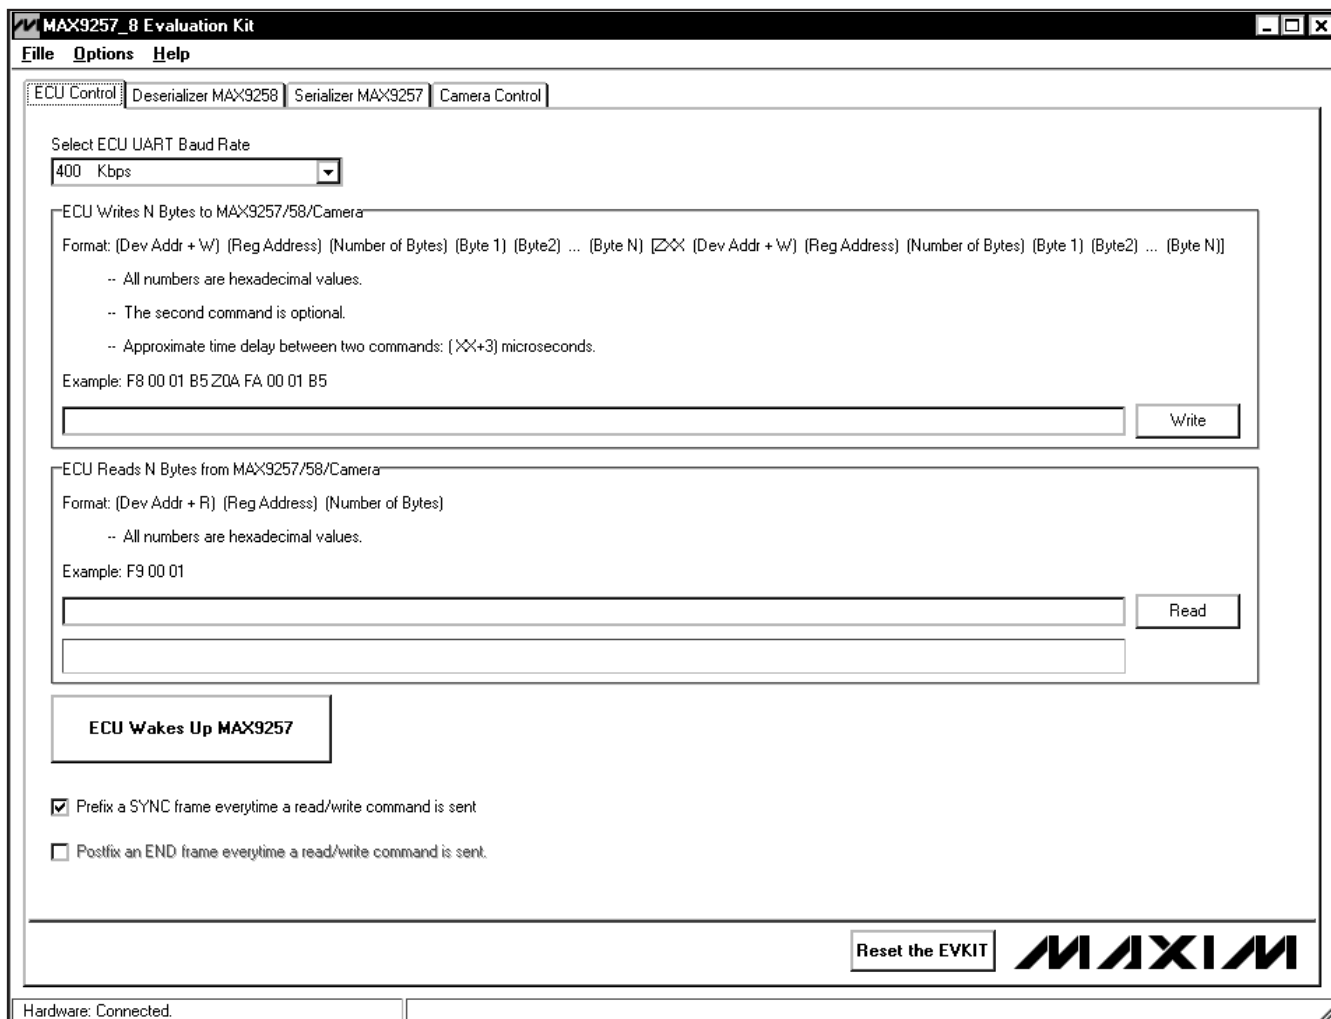

Figure 3. MAX9257/MAX9258 Evaluation Kit Software—ECU Control Tab
- 14) Verify that the software main window shows up next (Figure 3).
The **ECU Control** tab sheet (Figure 3) lets the ECU configure the MAX9258, MAX9257, and the camera.
- 1) Start the program or press the **Reset the EVKIT** button on the **ECU Control** tab sheet (Figure 3).